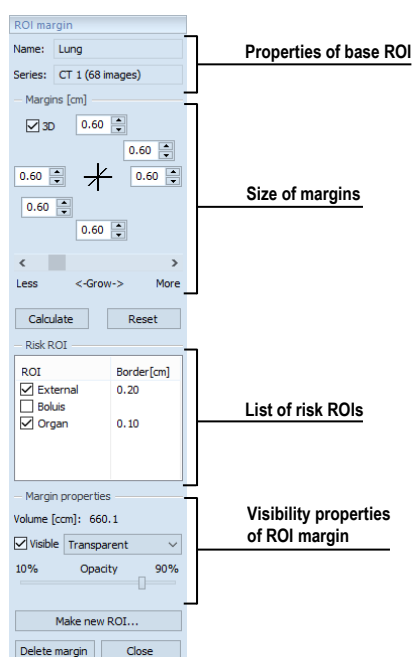

Figure 257 – ROI margin tool
3. The **ROI margin** tool is then automatically displayed as a new tab in the tools panel where you can define parameters for the ROI margin (see Figure 257).